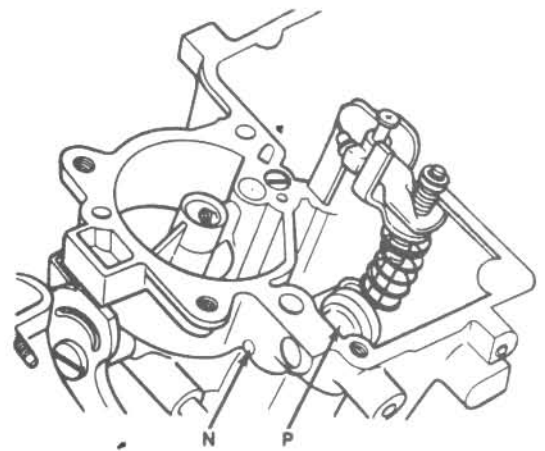

Fig. 4.78 Use a punch to remove the plug (N) so the bleed valve (P) can be removed
- 17 Use a sharp punch to remove the accelerator pump bleed valve plug from the outside of the main body casting, loosen the bleed valve screw and remove the valve (Fig. 4.78).